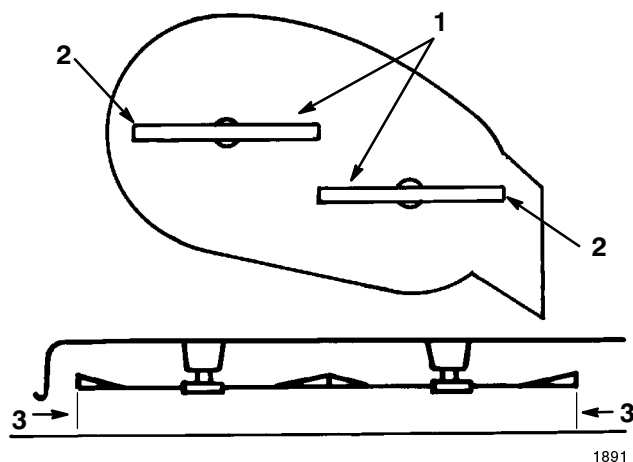

Figure 50
- Carefully rotate the blade(s) side to side (Fig. 50). Measure between the outside cutting edges and the flat surface (Fig. 50). If both measurements are not within 3/16 in. (5 mm), an adjustment is required; refer to steps 5 and 6.